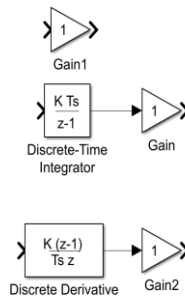

Figure 6: P, I, and D Factors Blocks in Simulink.
- B. To build your own PID, you may use the following blocks shown in Figure 6: